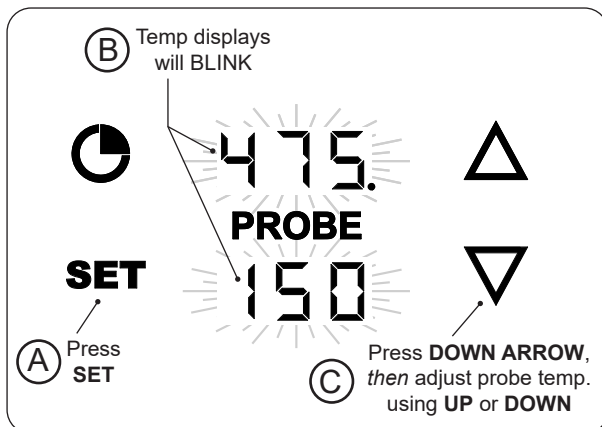

Fig. 41-2 Set probe temperature
1. With the thermometer/thermostat **on** and the meat probe plugged in, press the **SET** button once. The grilling and probe displays will blink. (While blinking, either area can be selected to enter their settings.) See Fig. 41-2, A and B.
2. Press the **DOWN ARROW** to select the probe settings, then you may use the up or down arrows to set the desired temp (Fig. 41-2, C).